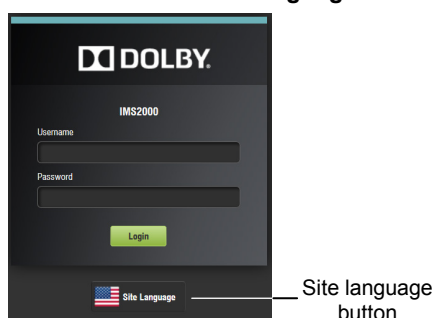

Figure 8-4 Login Window
1. Click on the **Site Language** button on the login window (see Figure 8-4).